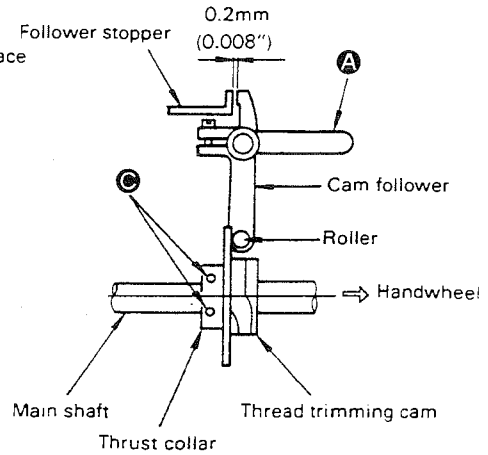

Fig. 5-16-2
- 1) When part **A** of the cam follower is pushed down to maximize the clearance between the follower stopper and the cam follower, the clearance should be 0.2 mm (0.007"). (Fig. 5-16-2)